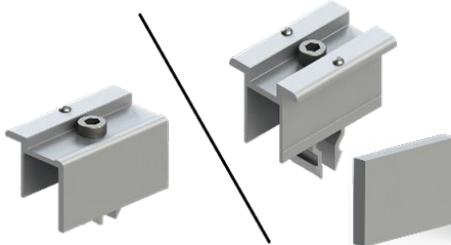

Fig. B1 – KB Konnect End Clamp, KB Konnect Clamp with End Block
- 2 Click the KB konnect end clamp (see Fig. B1) into the top support slot. Install with either KB konnect end clamp or KB konnect clamp and end block.